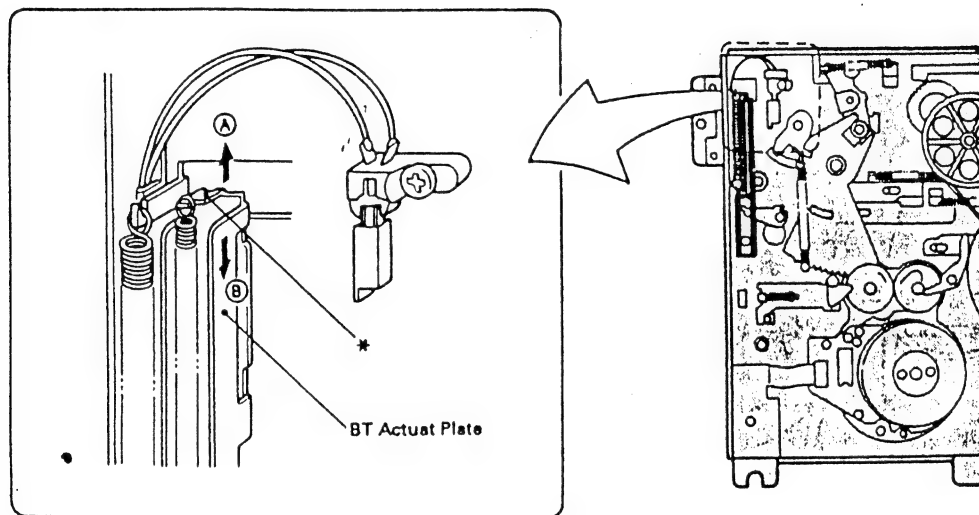

Fig. 1
1. ADJUSTMENT OF THE BT TORQUE OF THE DECK MECHANISM (Fig. 1)